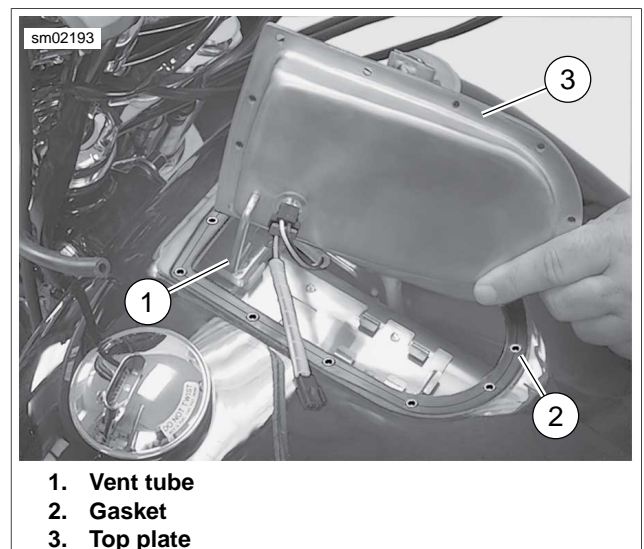

Figure 8-44. Fuel Line Clamp
8. See Figure 8-44. On FXDC, FXDL, FXDB, FXDWG and FXDF models, rotate top plate (3) until vent tube (1) clears fuel tank.